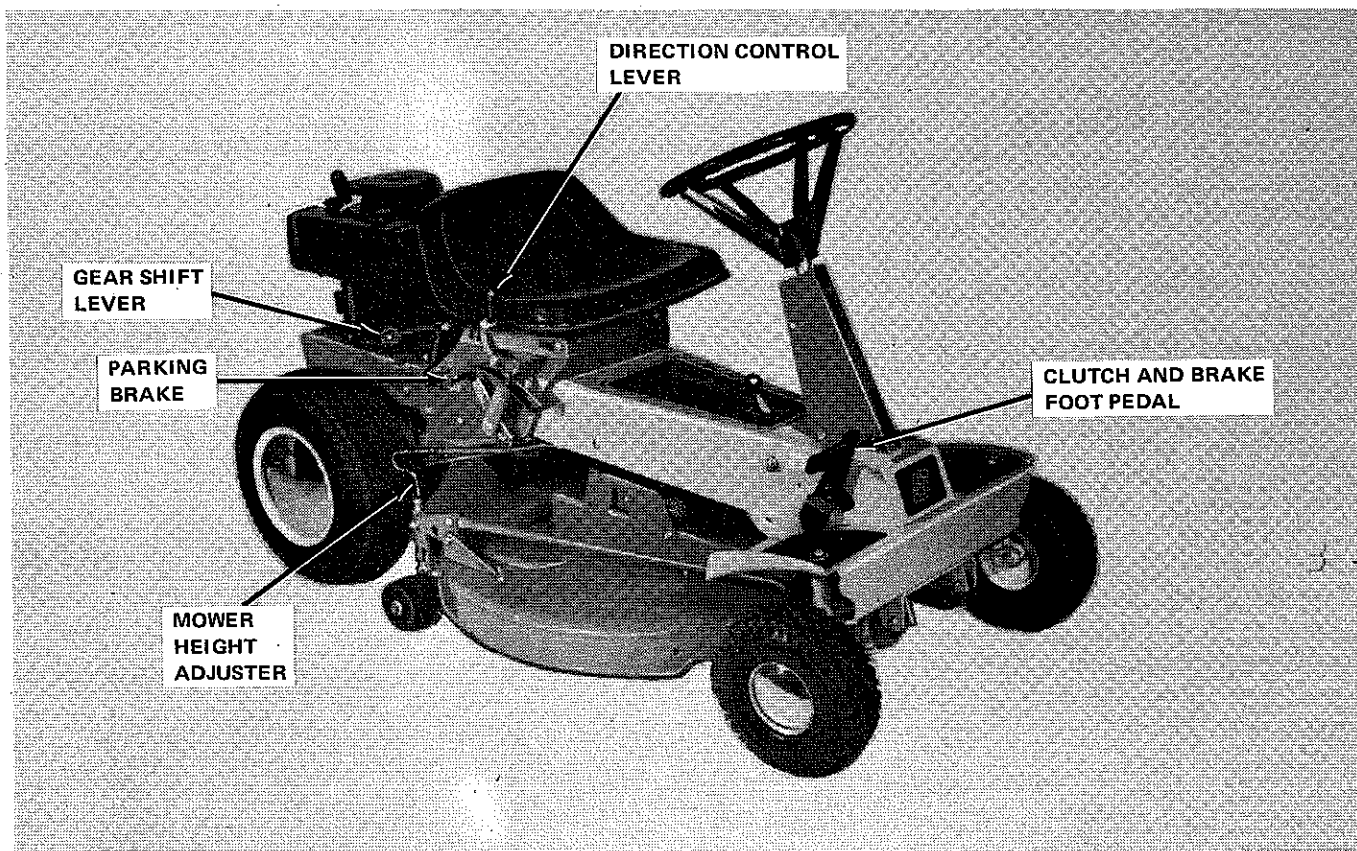
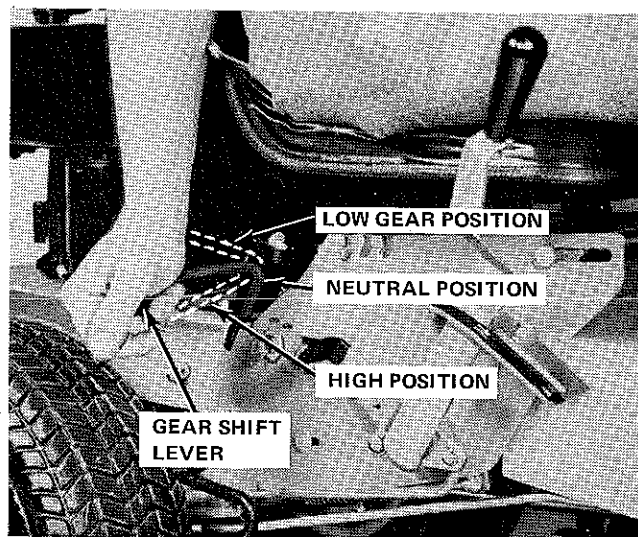

Figure 3-2. Right Side Operation Controls
Figure 3-9. Gear Shift Lever Positioning
1. Clutch and Brake Foot Pedal (Figure 3-2). Push pedal down to declutch and apply brake simultaneously. Vehicle may be stopped by depressing clutch pedal or by retaining direction control lever to NEUTRAL without depressing clutch pedal.
3. Mower Height Adjuster (Figure 3-2). The height adjusting handle raises and lowers the mower at both front and rear. Turn handle CLOCKWISE to raise, COUNTER-CLOCKWISE to lower.
4. Gear Shift Lever (Figure 3-2). Depress clutch and brake foot pedal and place the shift lever in the desired position. The upper position places the transmission in LOW gear, the middle position in NEUTRAL, and the lower position in HIGH gear (Figure 3-9). Gear shift lever must be in NEUTRAL when starting.
5. Direction Control Lever (Figure 3-2). The direction control lever controls the direction of travel. To position lever in either FORWARD, NEUTRAL, OR REVERSE, it is necessary to pull handle inward from notch and then move either forward or rearward as desired.
7. Parking Brake (Figure 3-2). To apply parking brake, push lever down. Direction control lever will return to NEUTRAL only when engaging parking brake.
A. Place controls (Figures 3-2 and 3-3) in following positions:
2. Gear Shift Lever-NEUTRAL (Figure 3-9).
C. Have the front wheels centered straight ahead and hold the steering wheel with one hand. Move the gear shift lever to HI or LO as desired. (Figure 3-9.) Remember to push downward for HIGH gear or lift upward for LOW gear on the shift lever.